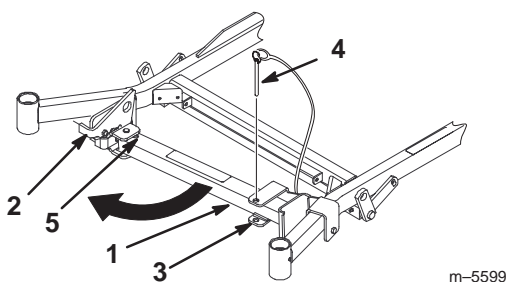

Figure 30
2. Remove bracket pin (Fig. 30).
3. Raise latch. Swing stand foot out front and slide stand toward machine, into the bottom of slot (Fig. 30 and 31).
4. Return stand to its rest position (Fig. 30).